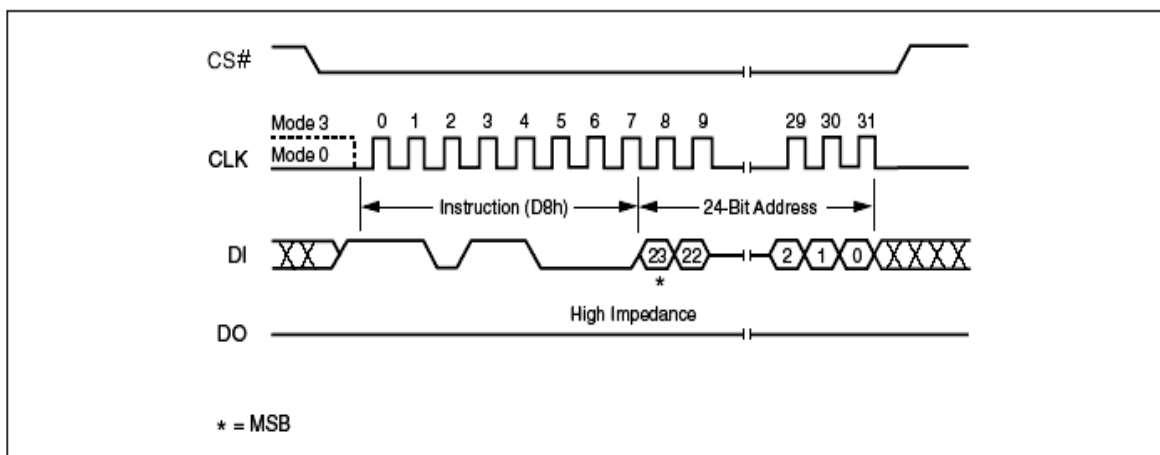

Figure 38. 64KB Block Erase Instruction Sequence Diagram
The instruction sequence is shown in Figure 38. Chip Select (CS#) must be driven High after the eighth bit of the last address byte has been latched in, otherwise the Block Erase (BE) instruction is not executed. As soon as Chip Select (CS#) is driven High, the self-timed Block Erase cycle (whose duration is t_{BE}) is initiated. While the Block Erase cycle is in progress, the Status Register may be read to check the value of the Write In Progress (WIP) bit. The Write In Progress (WIP) bit is 1 during the self-timed Block Erase cycle, and is 0 when it is completed. At some unspecified time before the cycle is completed, the Write Enable Latch (WEL) bit is reset.